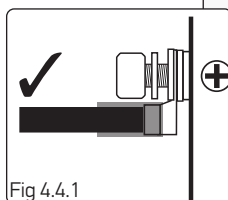

Fig 4.4.1
- ▶ Live wire exposed! Correct the cable installation to match (Fig 4.4.1).